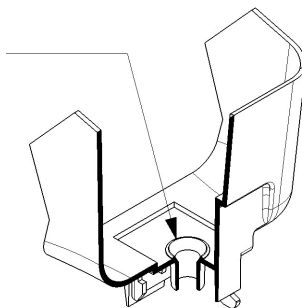

**figure 6**
- 3 **Gravity faucet:** install the faucet handle and the piston with its gasket (see figure 6).